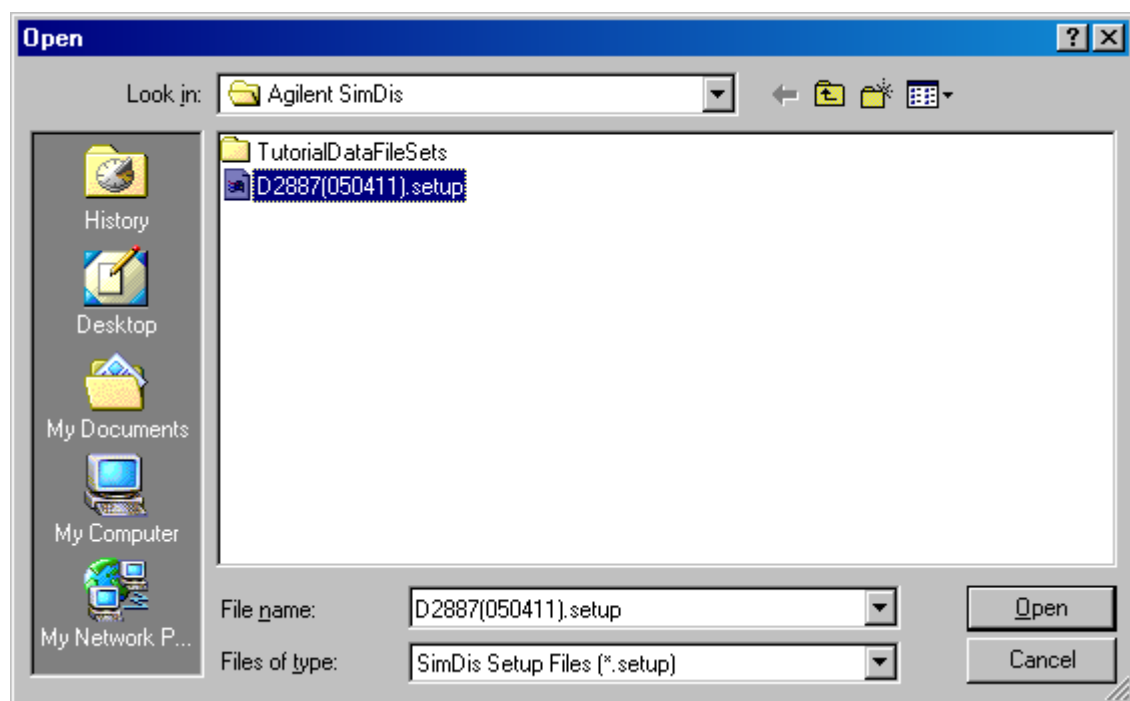

Figure 23 Locating a .setup file
- **Open Setup . . .** opens a browse view such that you can locate and select any user-named **.setup** file previously saved, in this case, one previously created as **D2887(050411).setup** (Figure 23).